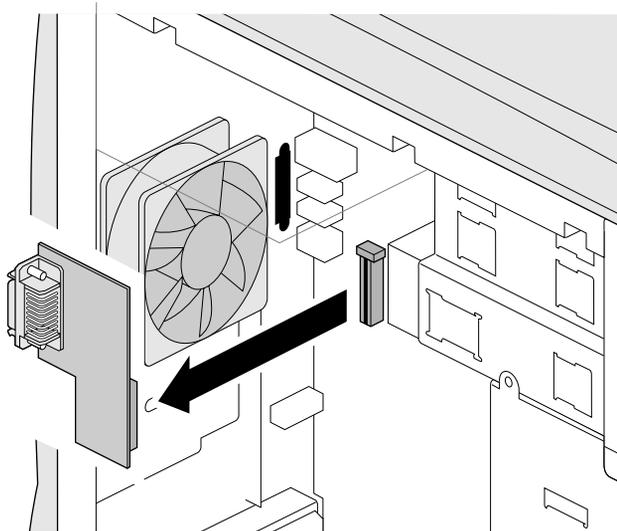

Figure 5-9 Removing the Display Option Card
5. Remove the option card by gently pulling it out of the socket, as shown in Figure 5-9.